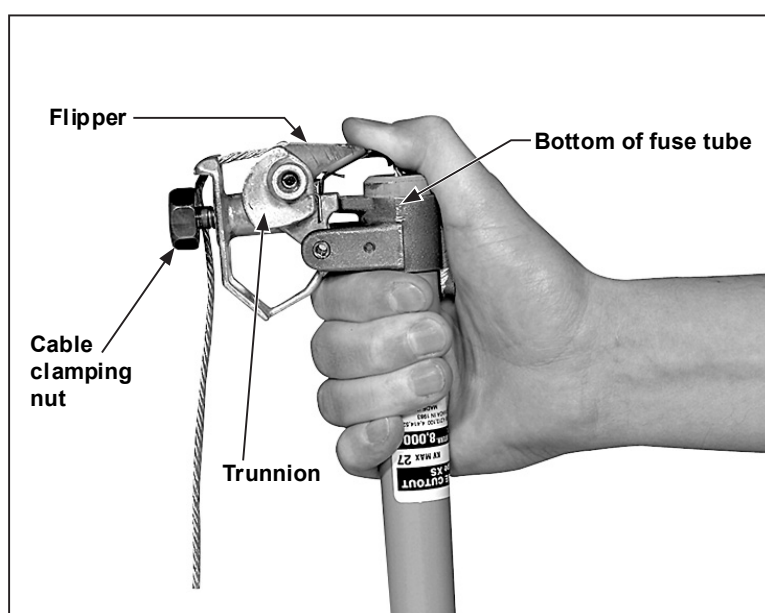

Figure 2a. Flipper fully pivoted.
Step 3 Replace the fuse-tube cap on the fuse-tube upper ferrule and tighten the cap securely using a wrench. Loosen the cable clamping nut on the trunnion. See Figure 2a.
Step 4 Rotate the flipper fully about its pivot until it reaches its stop (firm resistance is felt). See Figure 2a.